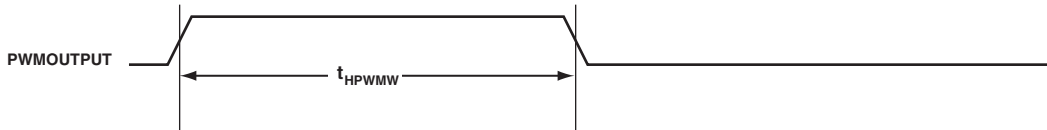
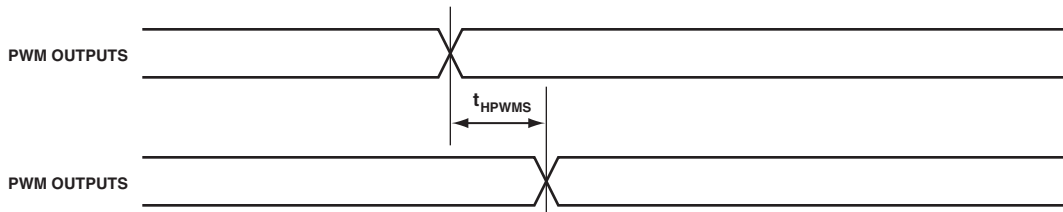

Figure 56. PWM HP Mode Timing, Output Pulse
Figure 57. PWM HP Mode Timing, Output Skew
Table 84 and Table 85 and Figure 56 and Figure 57 describe heightened precision (HP) PWM operations.